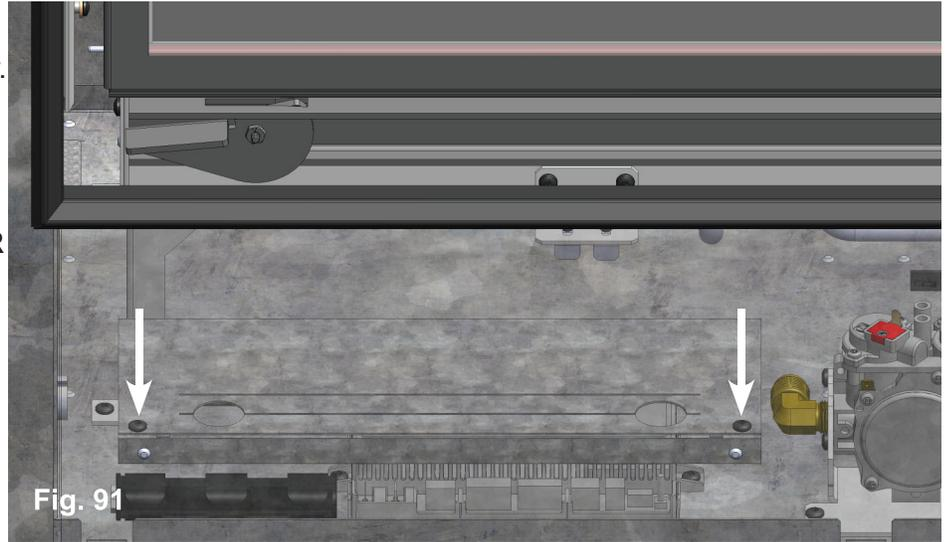

Fig. 91
3. Remove the **IFC HEAT SHIELD** by undoing the two screws. Set the shield underneath the firebox. **(Fig. 91)**